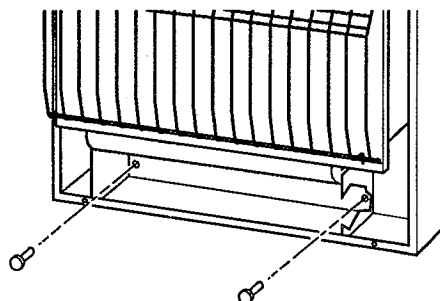

Figure 10 - Installing Bottom Mounting Screws
- Locate two bottom mounting holes. These holes are near bottom on back panel of heater (see Figure 10).